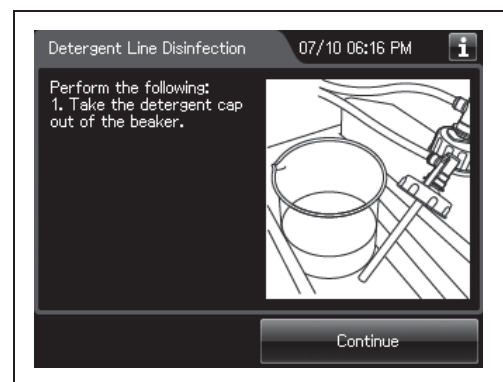

Figure 7.91
- 29** When the touch screen display changes as shown Figure 7.91, take the nozzle of detergent cap out of the beaker.